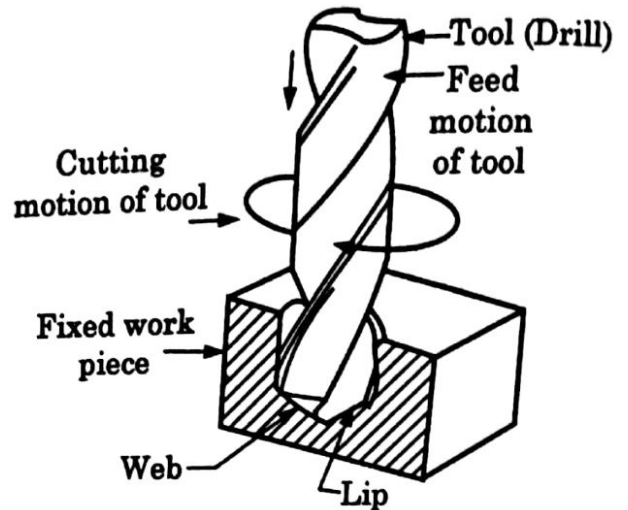

Fig. 2.14 : Drilling
1. **Drilling** : It is the process of generating the holes in a workpiece by removing the solid metal from it. (See fig. 2.14).